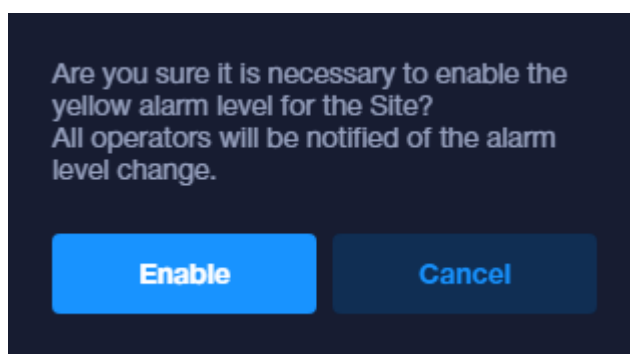

Figure 58. Confirmation of alarm level change
3. Confirm the alarm level change in the pop-up window by clicking the **Enable** button (see Figure 58).